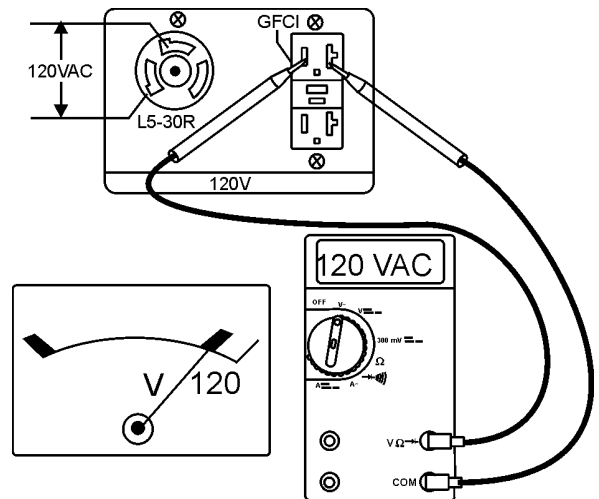

Figure 20. 120 V and GFCI Receptacles
- Read the *voltmeter* on the front panel of the generator (Figure 20) and verify that 120 VAC is present at the 120V twist-lock and GFCI duplex receptacles. For additional verification of voltage, an external voltmeter can be used to measure the output voltage as shown in Figure 20.